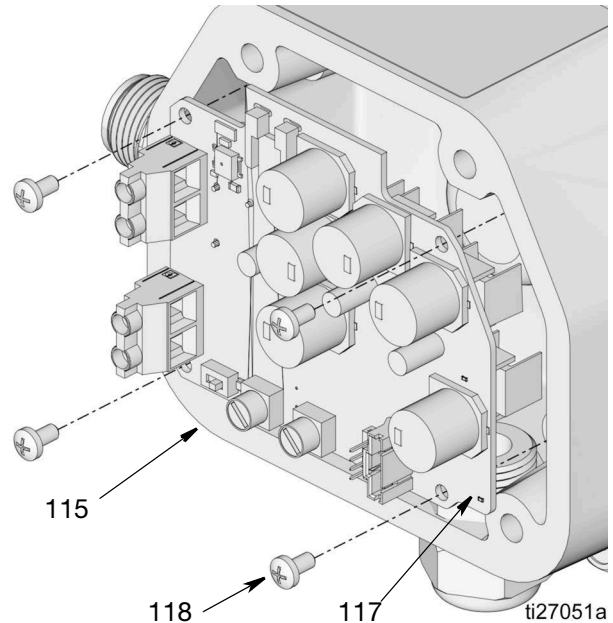

FIG. 68
9. Remove the screws (118) securing the motor control board (117) to the housing (115) (FIG. 68).